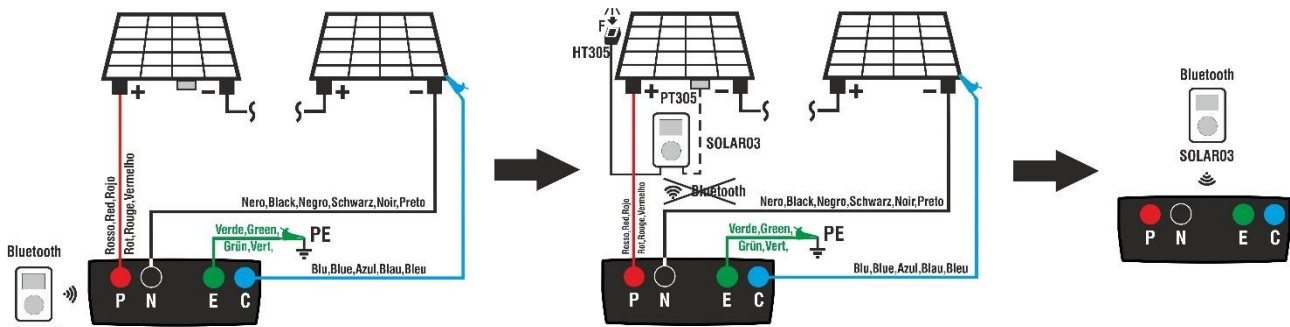
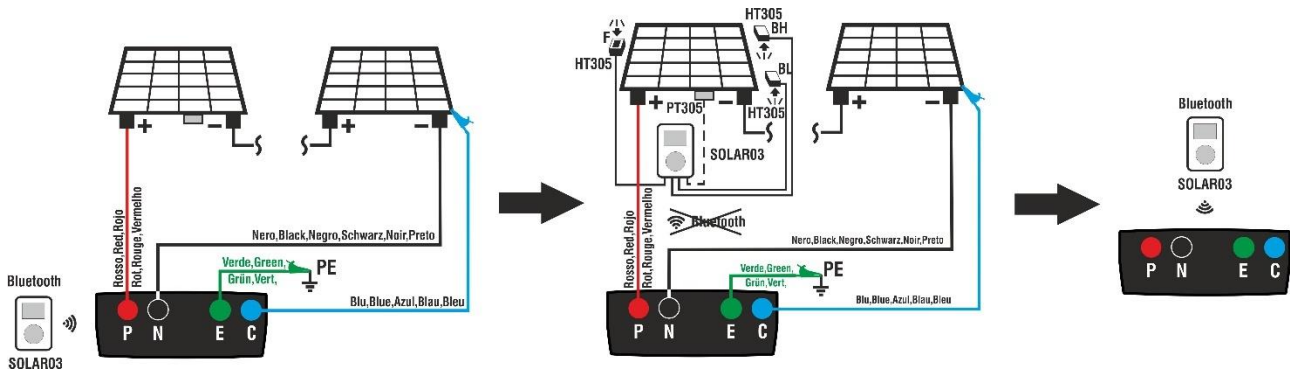

Fig. 12: Connection of SOLAR03 in synchronous recording on Mono-facial PV modules
Fig. 13: Connection of SOLAR03 in synchronous recording on Bifacial PV modules
1. Connect the instrument to the PV module/string being tested and to the main earth node of the system, and to the metal masses connected to earth as shown in Fig. 12 (Mono-facial modules) or Fig. 13 (Bifacial modules) In detail:
3. Move the SOLAR03 remote unit close to the instrument as shown in Fig. 12 or Fig. 13 – left side part
6. Move the remote unit close the modules and connect the irradiance/temperature probes as shown Fig. 12 or Fig. 13 – middle side part. **Since recording has already been activated on remote unit SOLAR03, it is not necessary to maintain the Bluetooth connection anymore.** Maintaining the connection (if possible) will only allow to immediately obtain the outcome of the test without waiting for the measuring campaign to be completed.
16. Once testing has ended, disconnect the remote unit SOLAR03, move it back close to the instrument (see Fig. 12 or Fig. 13 – right side part) and check that the connection to the instrument is active again (symbol "⌘" on **and steady** on the remote unit's display).